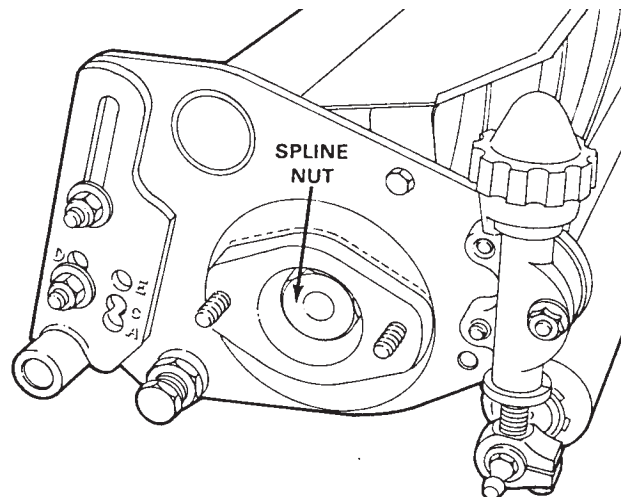

Figure 1
2. Tighten the spline nut on the right end of the cutting unit to 65–70 ft. lb. (Fig. 1).